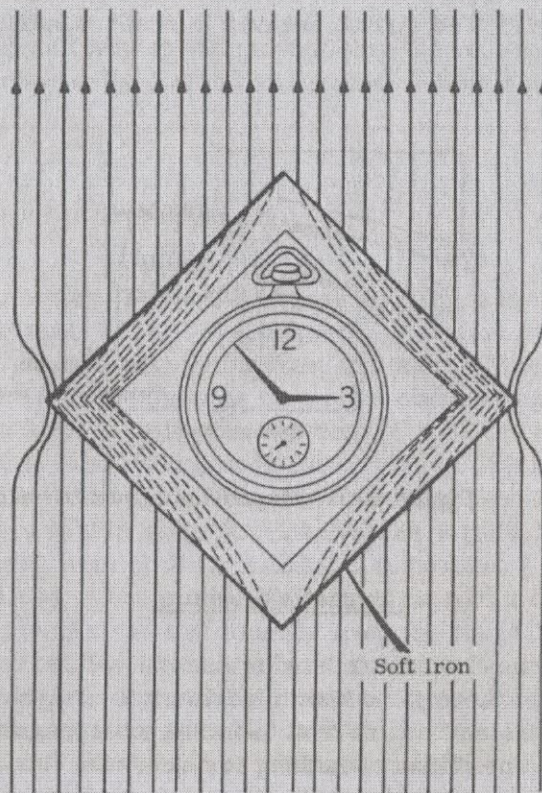

Figure 6-10. A magnetic shield.
51. Figure 6-10 on the preceding page illustrates how a magnetic shield works. How is the watch shielded from the magnetic flux? \_\_\_\_\_